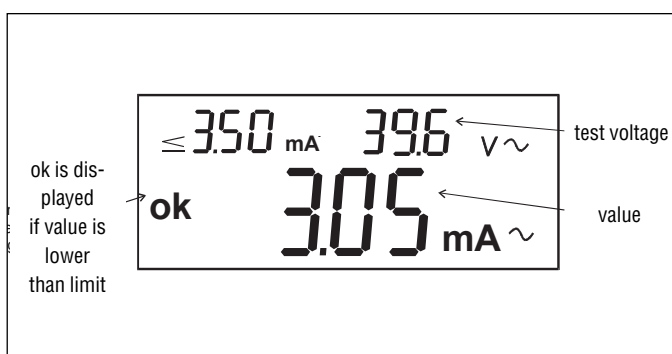

Fig. 7.20
- To terminate measurement, press START/STOP key again. The result is displayed as shown in Fig. 7.20.